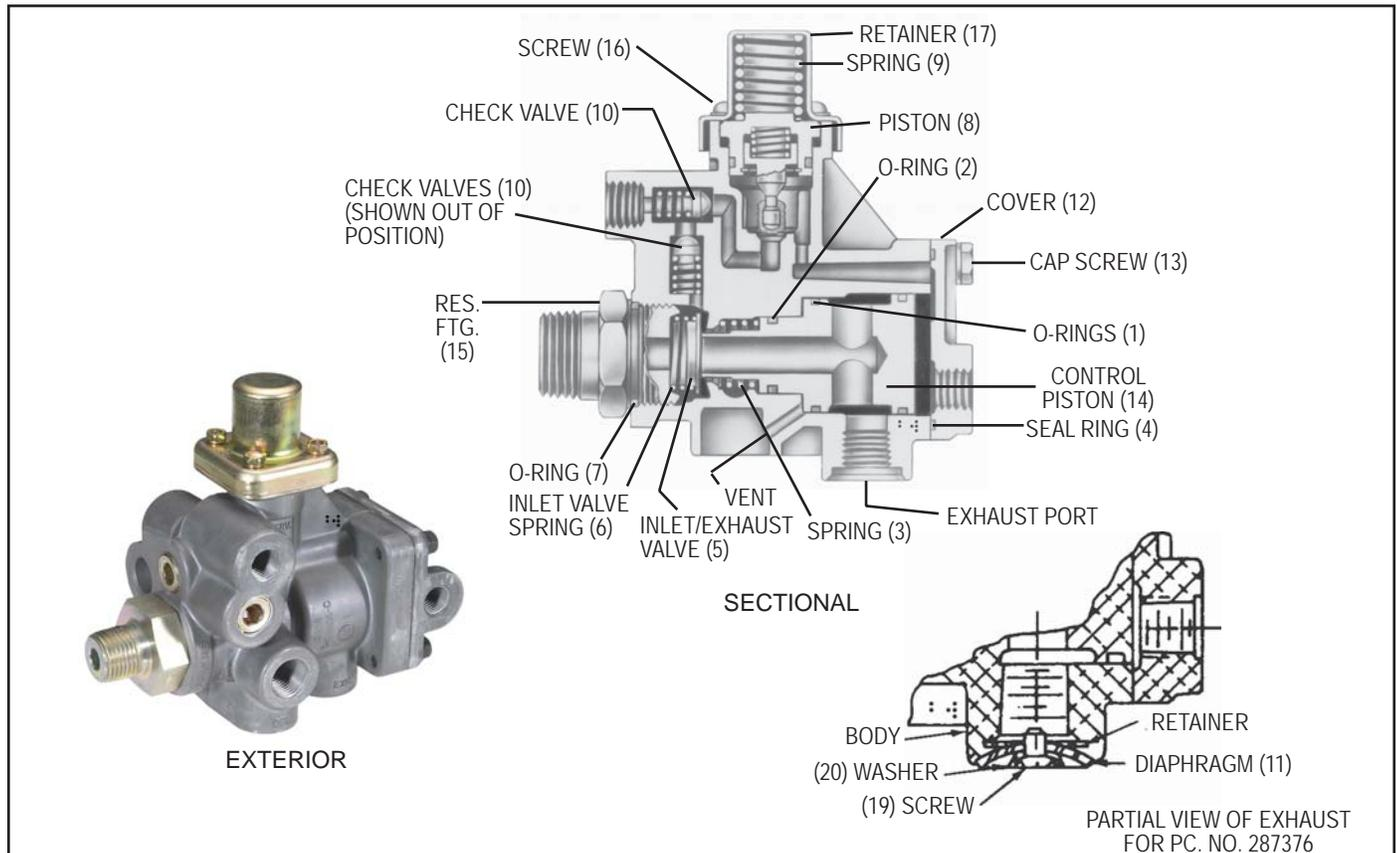

FIGURE 1
PROTECTIVE PISTON (Reference Fig. 1)
PISTON (Reference Fig. 1)
- Note and mark the position of the control piston cover (12) on the valve body. Remove the four 1/4" - 20 hex head cap screws (13) and lock washers which retain the cover to the body.
- Remove the cover, control piston assembly (14), and spring (3) from the valve body.
- From the control piston remove the three o-rings. (1) and (2).
- Remove the reservoir port fitting (15) from the valve body.
- From the reservoir port fitting remove the o-ring (7).
- Remove the inlet valve spring (6) and inlet and exhaust valve (5).
- If so equipped, (Figure 1) remove the screw (19), washer (20) and diaphragm (11) from the exhaust port.
REASSEMBLY OF TWO SINGLE CHECK VALVES (10) (Figure 1 and 7)